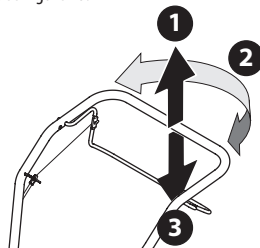

Figure 18
- To begin a turn, lift the handlebars until the tines are out of the ground and the engine and tines are balanced over the wheels. See Figure 18.
- With the tiller balanced, push sideways on the handlebar to steer in the direction of the turn. See Figure 18.
- After turning, slowly lower the tines into the soil to resume tilling. See Figure 18.